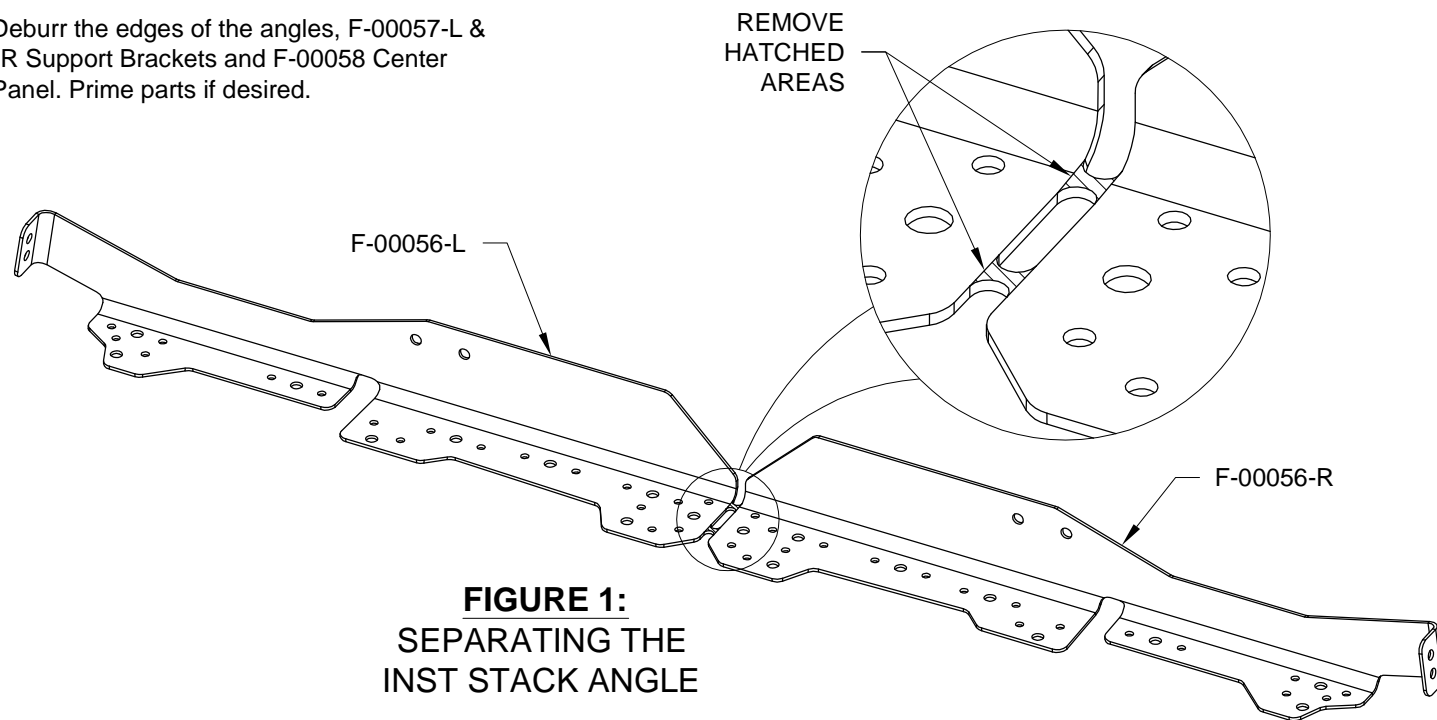

FIGURE 1:
Step 1: Separate the F-00056 Inst Stack Angle GTR225 into F-00056-L & -R Inst Stack Angles as shown in Figure 1.